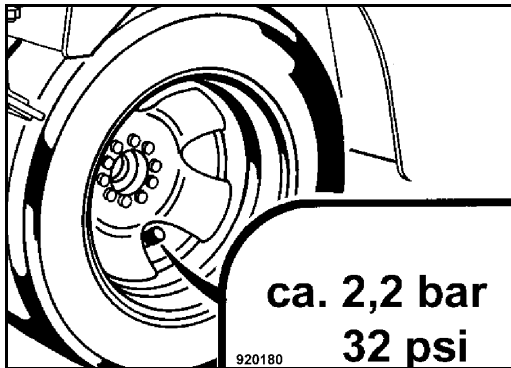

Fig. 177
- Check the tire pressure with a pressure gauge (Fig. 177).